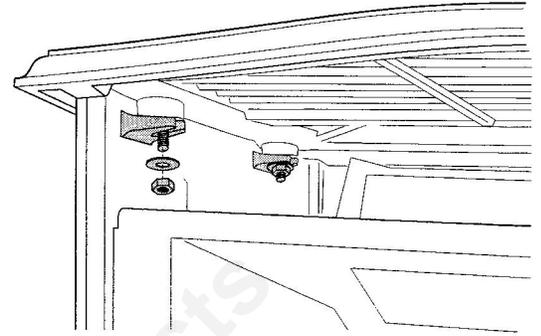

Figure 10. Remove the nuts that secure the top plate.
**2. Remove the top plate.** Fig. 10.